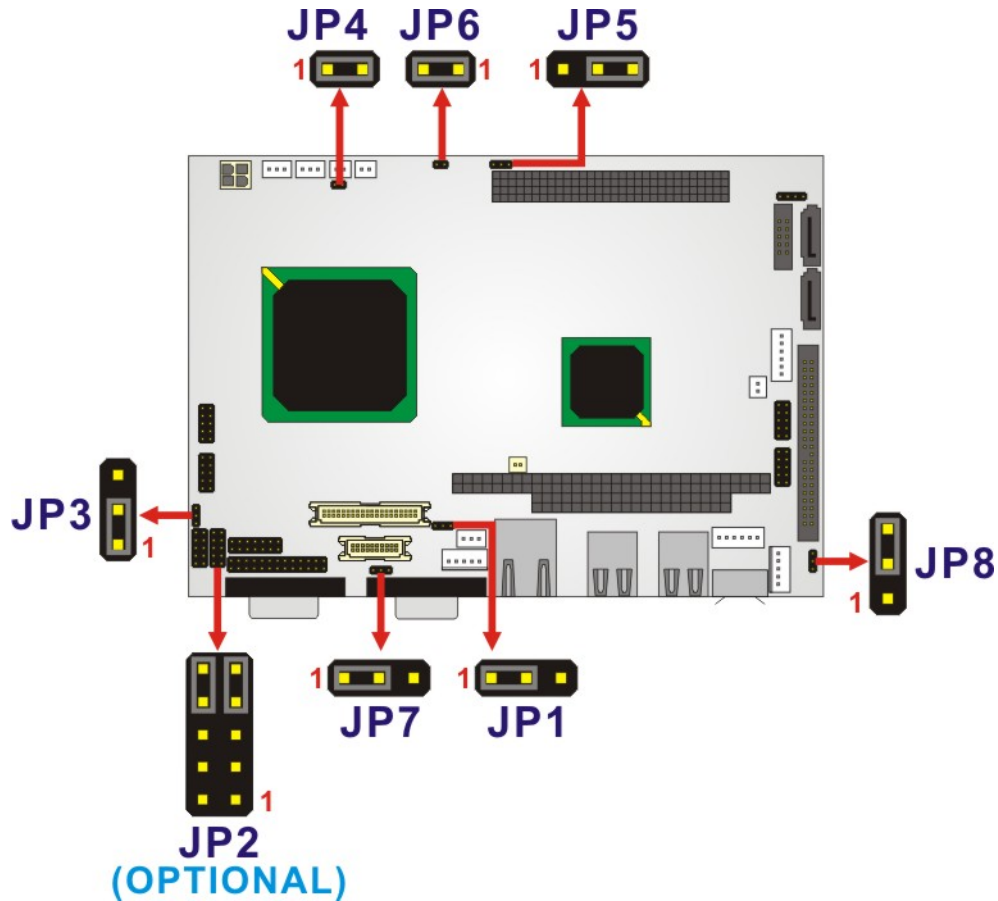

Figure 5-4: Jumper Locations
Jumper Location:	See Figure 5-4
- Jumper Location:** See **Figure 5-4**